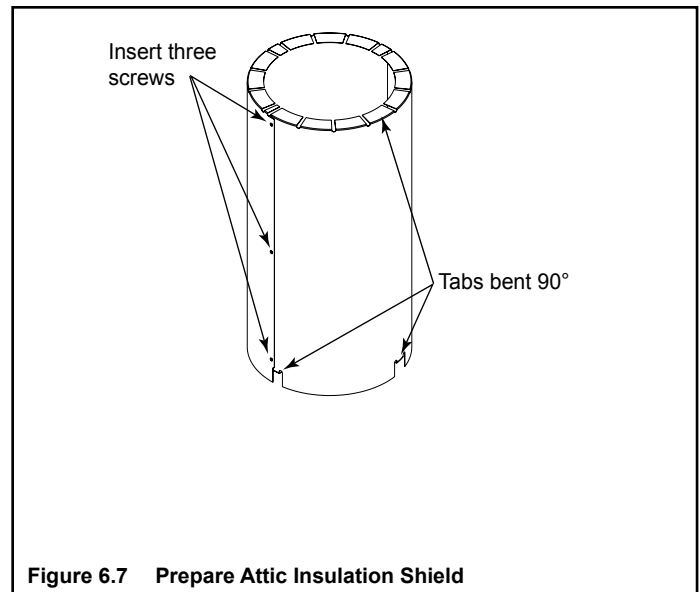

Figure 6.7 Prepare Attic Insulation Shield
- Refer to Figures 6.7, 6.8, 6.9.